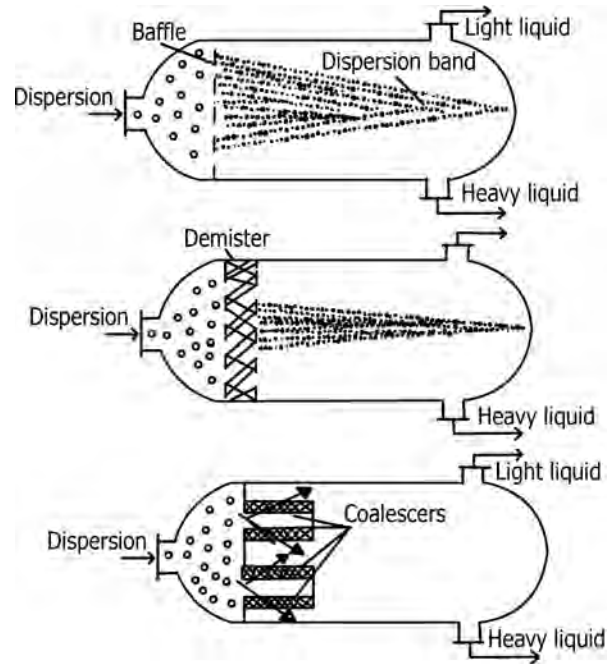

FIGURE 17.52 Settling chambers of different designs.
- Figures 17.52 and 17.53 illustrate typical configurations for settling chambers.